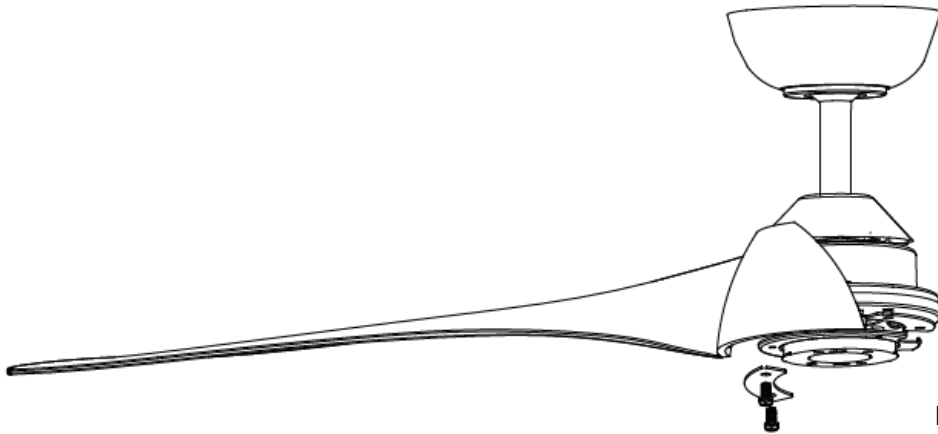

Fig. 9a
- Once completed, repeat the process on the remaining blades. **(Fig. 9a)**